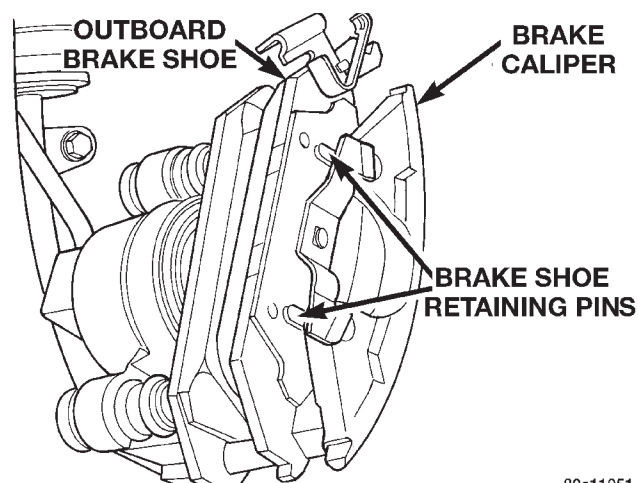

Fig. 51 Removing / Installing Outboard Brake Shoe
(8) Remove outboard brake shoe by pushing the brake shoe inward until retaining pins on brake shoe can be removed from holes in caliper (Fig. 51). Then slide the brake shoe off the caliper.
(6) Slide the new outboard brake shoe assembly onto the caliper assembly (Fig. 51).